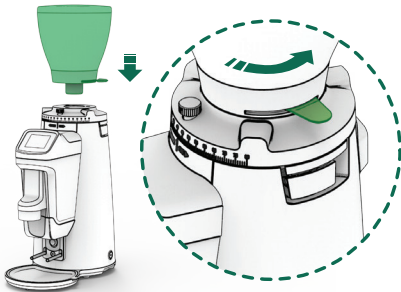

Fig. 1
Place the hopper (2) on the grind regulator (16) and make sure the bean trap (4) is in the closed position (Fig. 1).